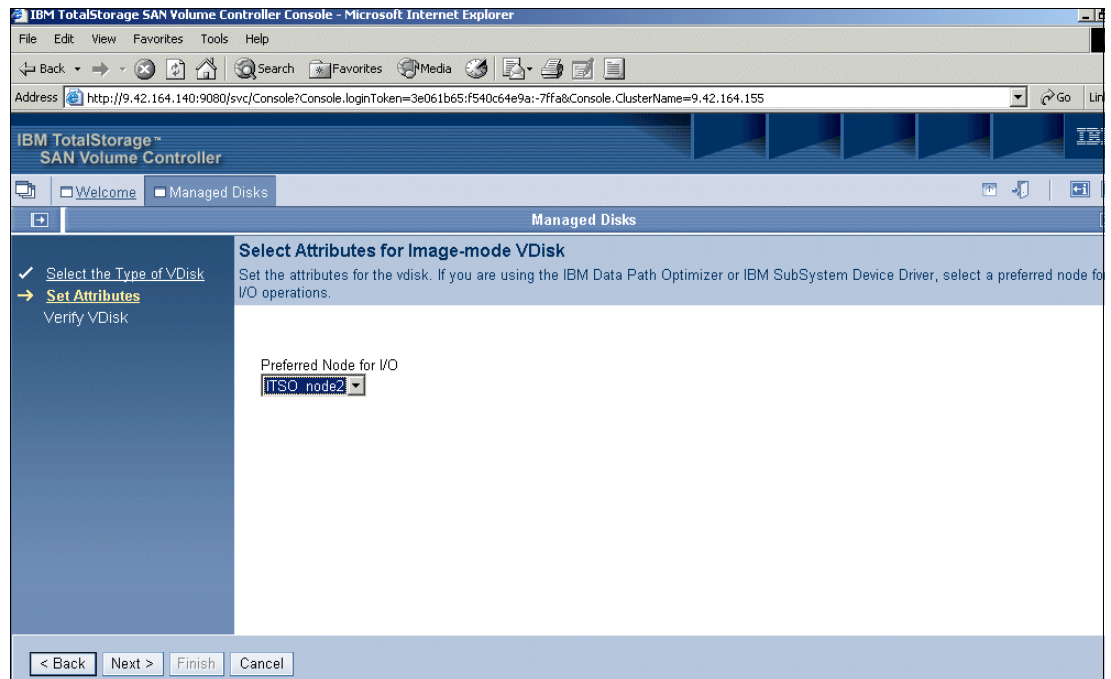

Figure 9-36 Preferred node for creating an image mode vDisk
3. On the next panel (Figure 9-36), select the node within the I/O group that you want to be the preferred owner of your vDisk. Click **Next**.